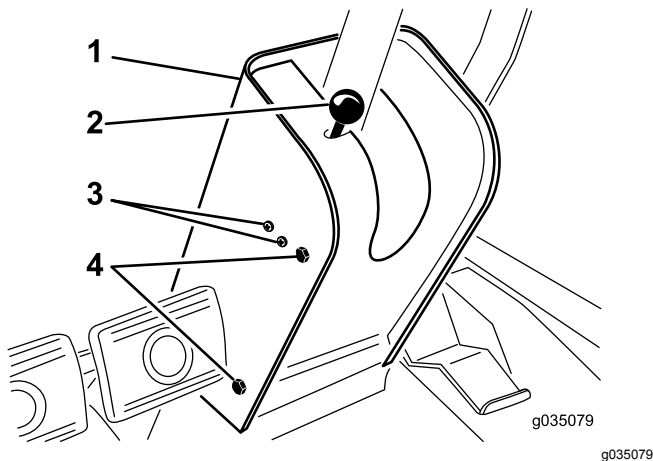

Figure 70
2. Remove the knob from the parking-brake rod and the screws from the steering-tower cover (Figure 70).
4. Loosen the screws and nuts that secure the parking brake switch to the left side of the steering tower (Figure 70).